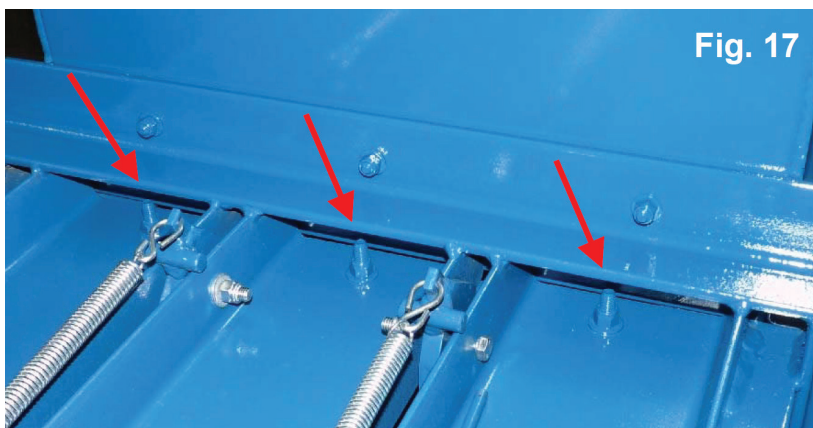

Fig. 17
1. Remove screws at arrows shown in Fig. 17.